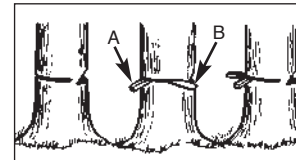

Fig. 11C
1. Use wooden or plastic wedges (G) to prevent binding the bar or chain (H) in the cut. Wedges also control felling (Fig. 11C).